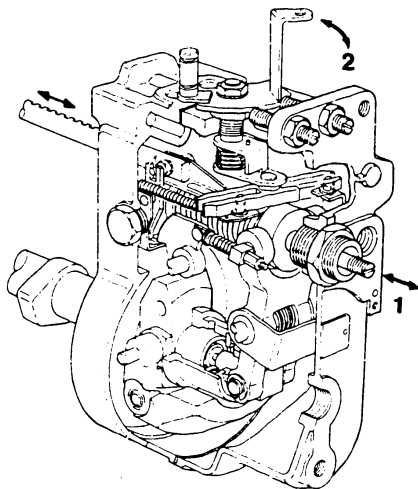

Fig. 132 Confirmation of the governor shaft and control rack sliding resistance
16. After installation of the governor cover assembly, check the following (Fig. 132):